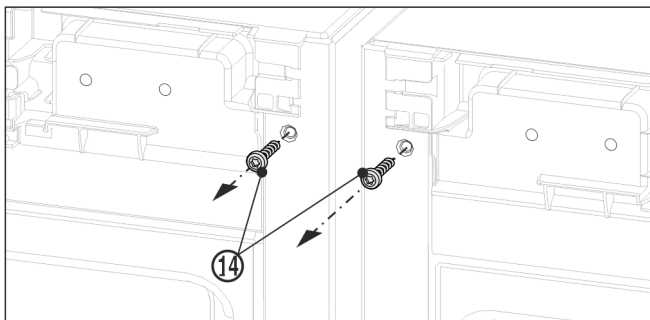

Fig. 12
- Before fitting the top bracket remove both earthing screws Fig. 12 (14).